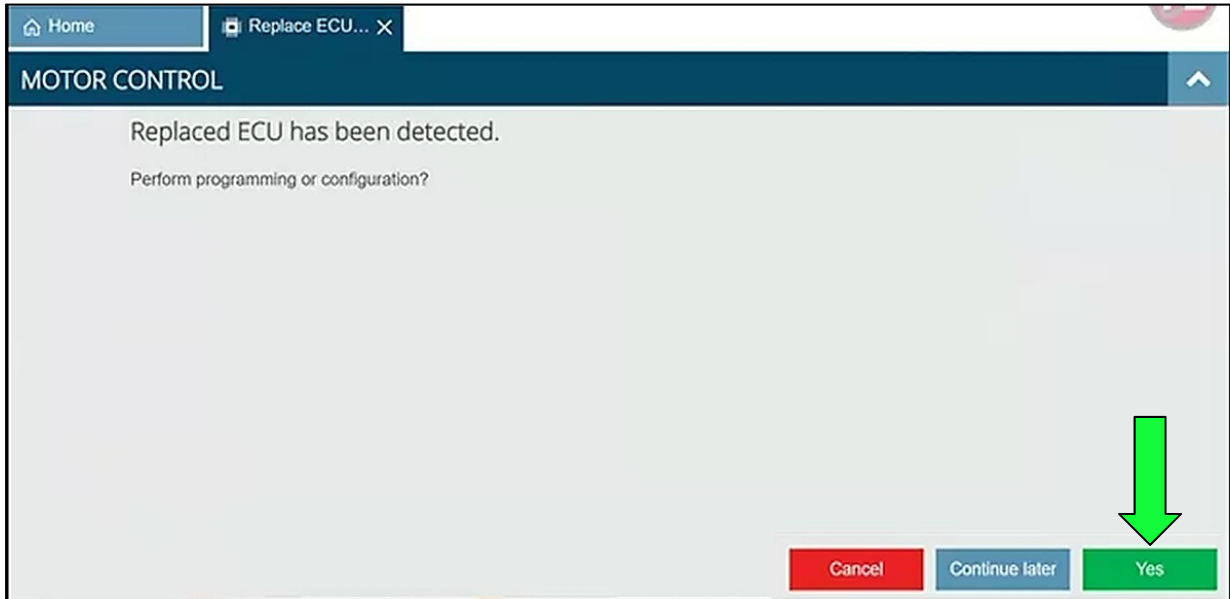

Figure 31
- If the screen in Figure 31 is not displayed, locate and select the applicable control unit in the displayed list.